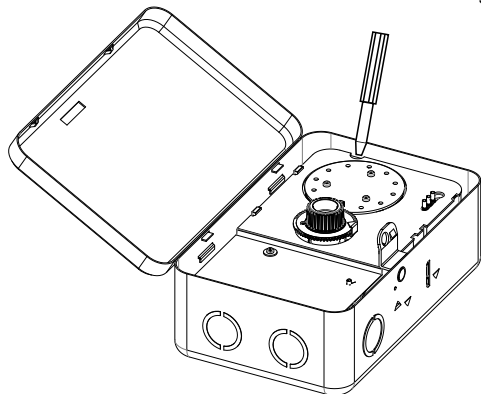

Figure 1. Removing G8000 Defrost Timer from Intermatic enclosure.
2. Insert screwdriver into slot on G8000 Defrost Timer and remove mechanism from Intermatic enclosure. See Figure 1.
4. Insert screwdriver into slot on G8000 Defrost Timer and remove it from Intermatic enclosure. See Figure 1.
4. Insert screwdriver into slot on G8000 Defrost Timer and remove it from the Intermatic enclosure. See Figure 1.